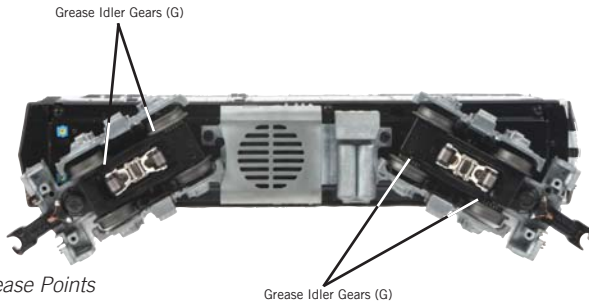

Figure 8: Grease Points
1. To access the gear box, remove the cab from the chassis by unscrewing the body mount screws as seen in Figure 8 and lifting the cab from the chassis.
2. Once the cab is removed, remove the trucks by unscrewing the black Phillips motor mount screw located on the underside of the drive trucks (see Fig. 8).